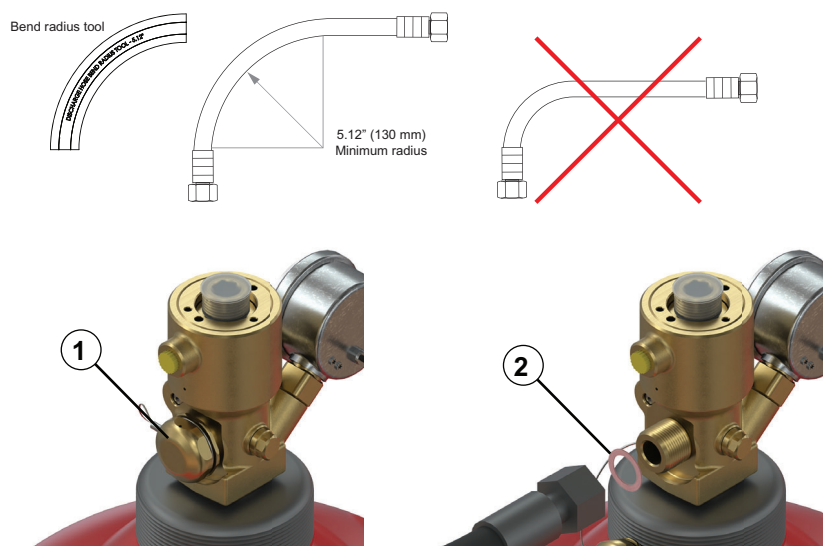
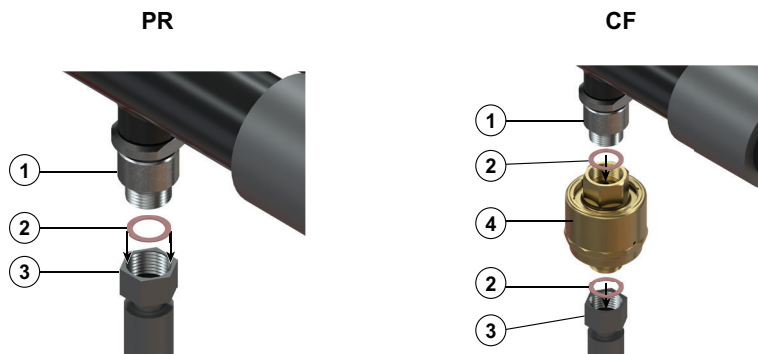

Figure 6.10: Installing the hose onto the cylinder valve
Figure 6.11: Installing the hose and/or regulator onto the manifold
- Do not bend the hose less than its **MINIMUM** radius of 5.12 inches (130 mm). Refer to Figure 6.10
2. Insert a gasket (2) into an end of the hose.
- Do not bend the hose less than its **MINIMUM** radius of 5.12 inches (130 mm). Refer to Figure 6.10 on page 61.
5. For PR only, screw the hose union (3) onto the preinstalled manifold check valve (1) to a torque of 40.16 ± 3.7 ft-lb. This concludes the procedure for the PR system.
6. For CF only, install the pressure regulator (4) between the hose (3) and the check valve (1) as shown in Figure 6.11 .